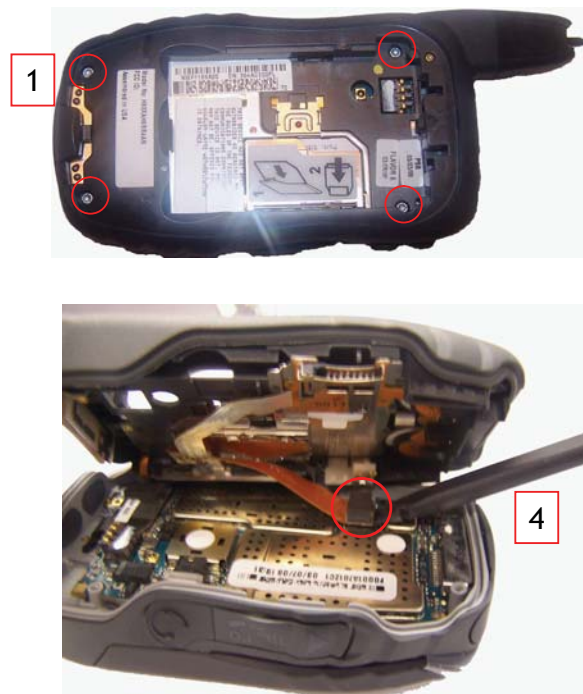

Figure 7-6.
1. Reattach flex connector carefully without contamination (see Figure 7-6).